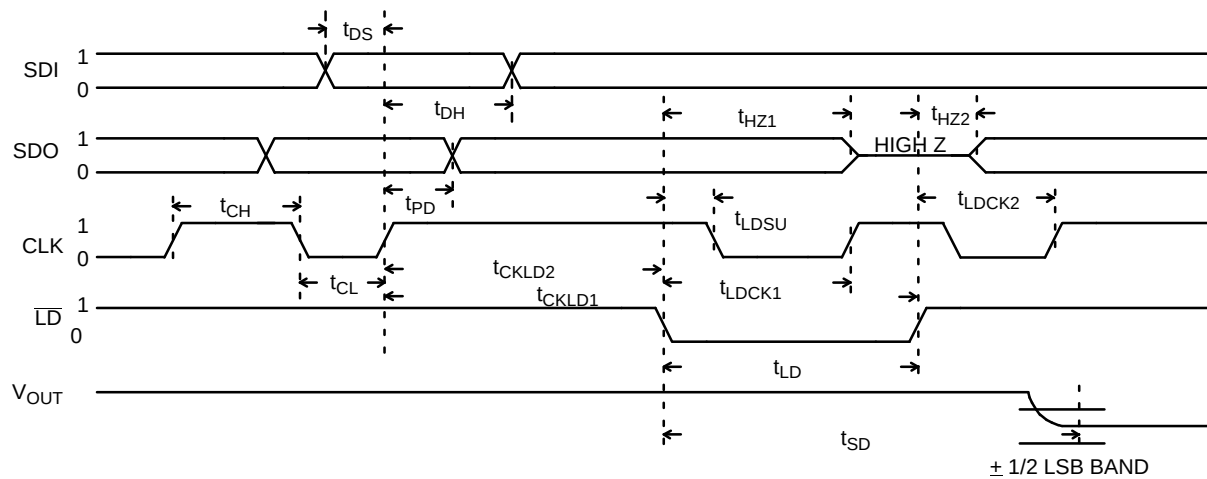

Figure 2. Detail Serial Data Input Timing ($\overline{RST} = "1"$)
- ⁴ See Figures 2 and 3.
- See Figures 2 and 3.